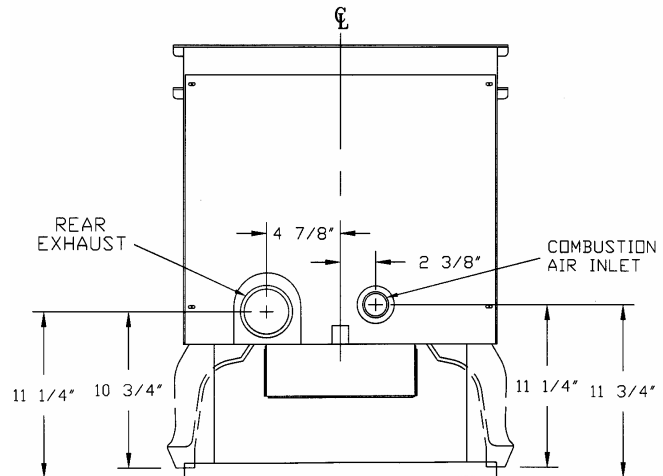
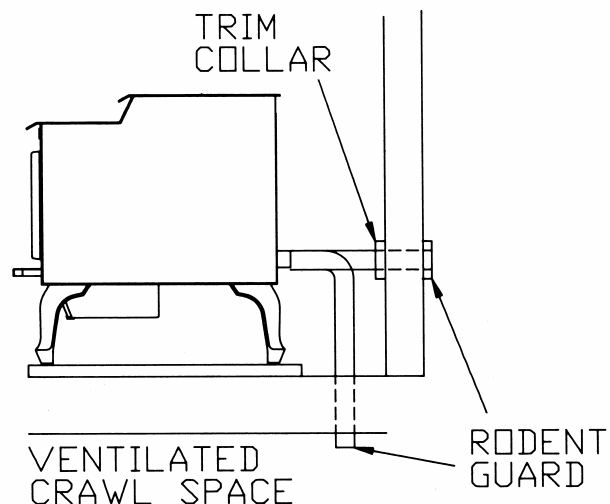

FIGURE 5
FIGURE 7
For a mobile home installation the stove must be connected to an outside source of combustion air. A 2" inside diameter metallic pipe, either flexible or rigid, may be attached to the inlet at the stove's rear (refer to figures 5 and 6). A rodent guard (minimum $\frac{1}{4}$ " wire mesh)/wind hood must be used at the terminus (refer to figure 7). All connections must be secured and airtight by either using the appropriately sized hose clamp and/or UL-181-AP foil tape.
2. Locate position of hole in wall; directly behind stove exhaust vent (refer to figure 5).